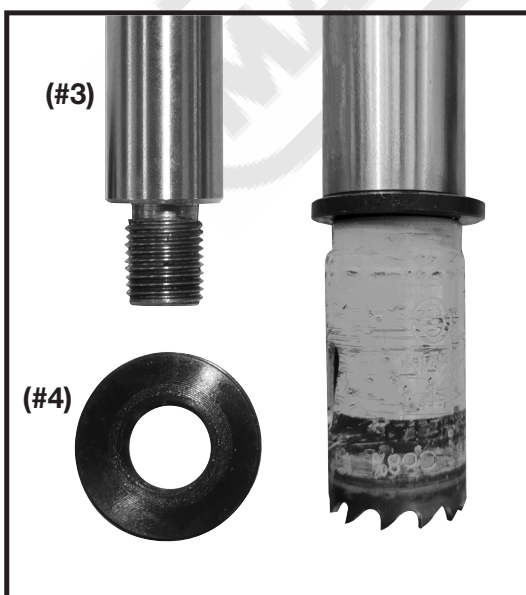

Fig. 1
2. Screw desired hole saw onto shaft. Refer to Fig. 1 & Fig. 2 depending on your hole saw thread size 1/2” or 5/8”. Attach the Adaptor (#7) if using larger 5/8” cutters.